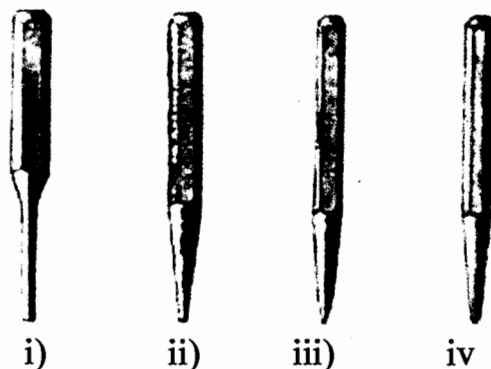

Figure 2. Types of punches
- c) Figure 2 shows a variety of punches used in workshop processes.